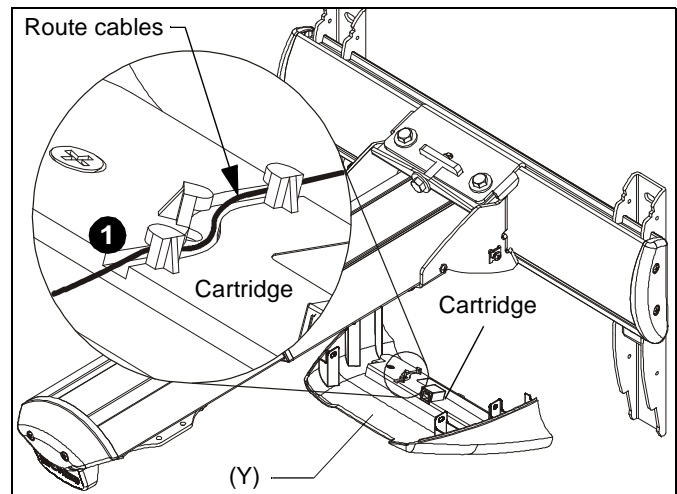

Figure 22
1. Route cables from projector through cartridge in interactive cover (Y). (See Figure 22)